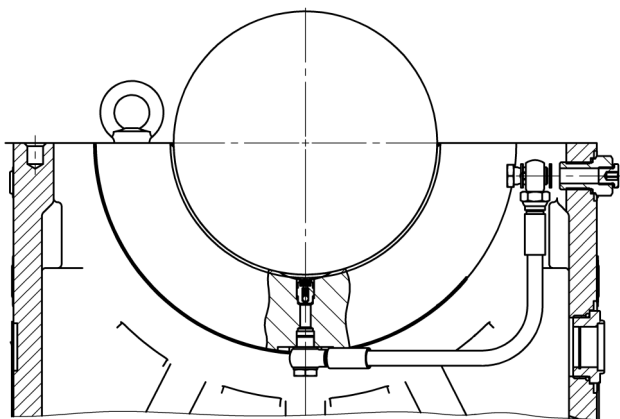

Fig. 60
- After having disassembled the upper part of bearing shell, the fitting of hose at housing side can be loosened (Fig. 60).